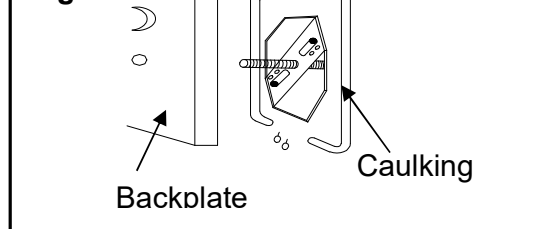

Fig.4
4. Loosen screw (U) to remove bottom frame (T) from fixture body. Insert clear glass panels (S) into channels (R) of top fixture body, then align to slots of bottom frame (T) and tighten with screw (U). (Fig.4)